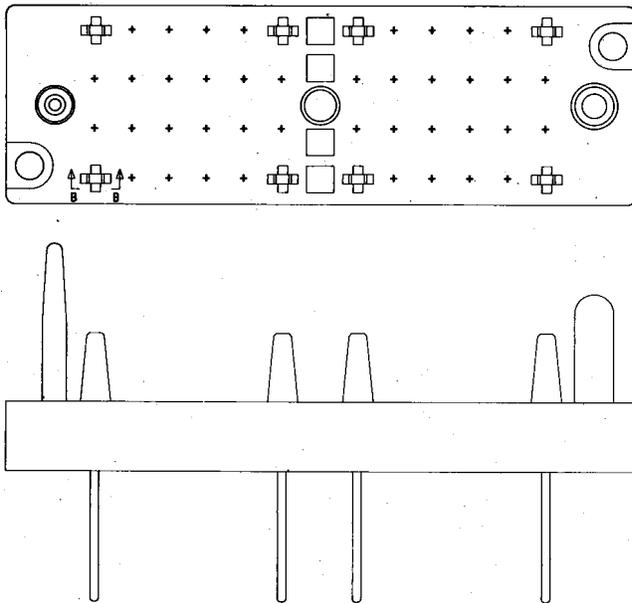

Fig. 7—KS-20320, L1 Connector
**2.03 KS-20320, L1:** The KS-20320, L1, (Fig. 7) is a polarized, multicontact, male connector consisting of a rectangular block of insulating material equipped with 48 flat blade, gold-plated terminals in four rows of twelve terminals each. The wiring end of the terminal is arranged for two solderless wrapped connections of 24-gauge wire. The connector is arranged to accommodate KS-20218, L1, inserts for connector polarization. This connector will mate with the KS-20203, L1, plug. This connector is used in the No. 2 Electronic Switching System (ESS).